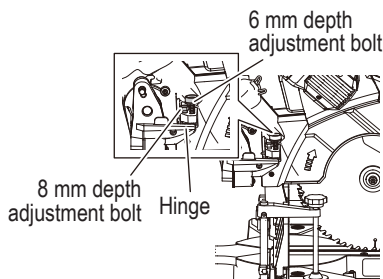

Fig. 18-a
- (1) Turn the 8 mm depth adjustment bolt, change the height where the bolt head and the hinge contacts, and adjust the lower limit position of the saw blade. (Fig. 18-a)